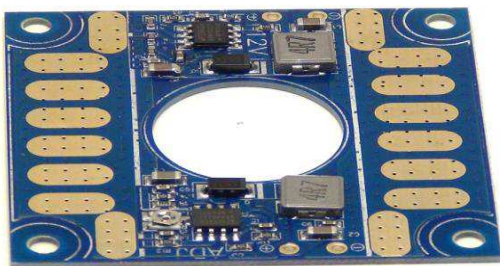

Fig. 7. Printed Circuit Board
11. PCBs Stands for "Printed Circuit Board" is a fiberglass board, which has many different components welded on it (fig. 7).